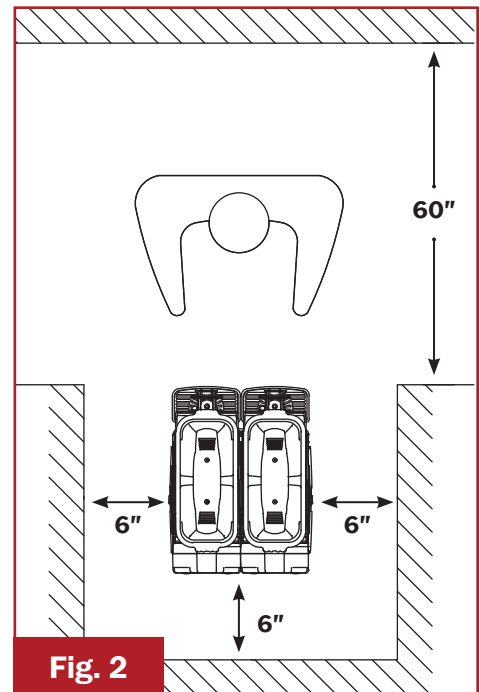

Fig. 2
2. For improved ventilation, maintain a distance of 6 in. between the unit and walls or other obstacles. Increase the distance if the unit is placed near a heating source. (Fig. 2)
3. Leave 60 in. of free space in front of the machine to allow for easy use and maintenance. (Fig. 2)
4. Leave 10 in. of free space above the machine to allow for removal of lids. (Fig. 2)